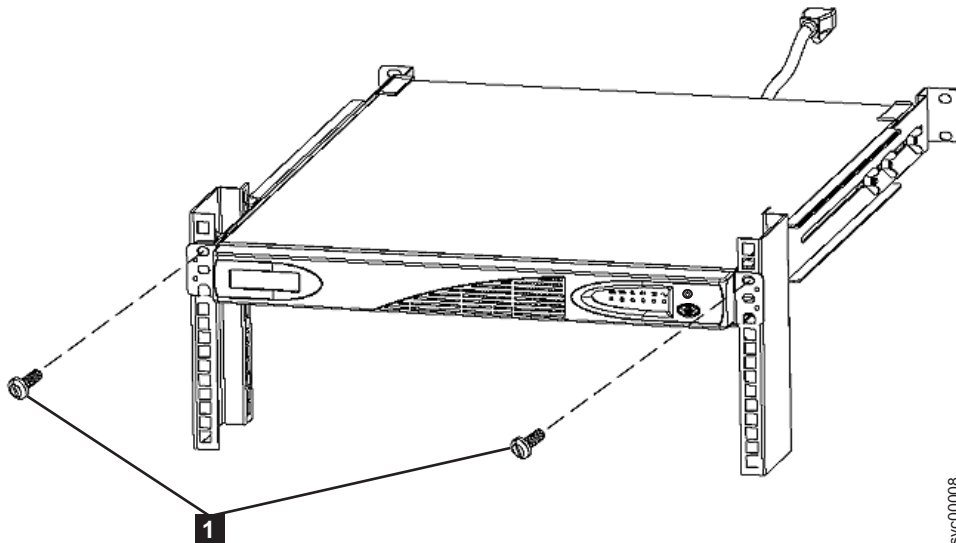

Figure 312. Mounting screws for the 2145 UPS-1U
9. At the front of the 2145 UPS-1U, unscrew the two mounting screws **1**, as shown in Figure 312.